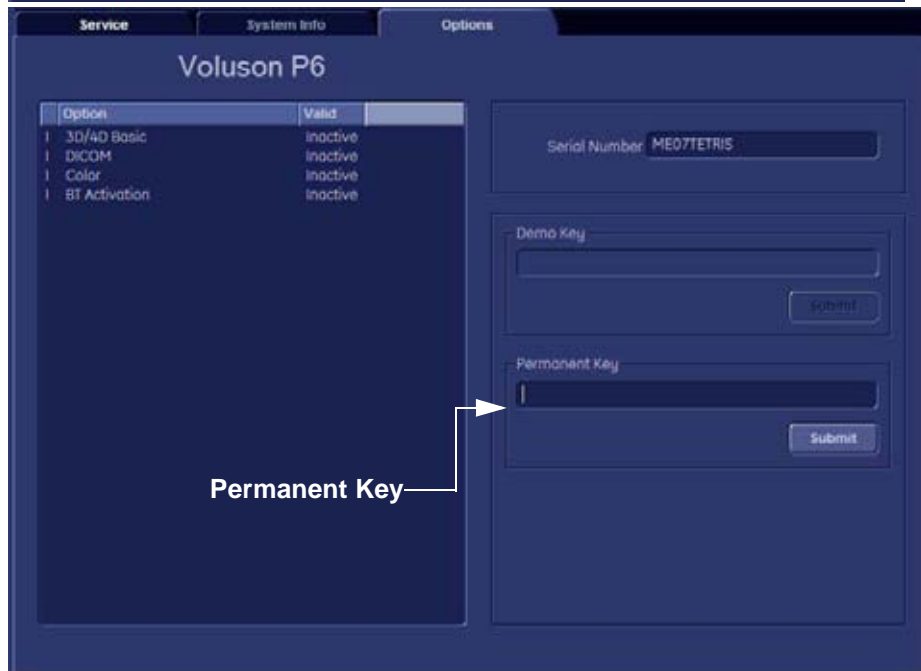

Figure 8-9 System Setup - Administration - OPTIONS page
- check the current Application Software version (Figure 8-9) and the installed Options (Figure 8-9)
- 4.) Verify the correct settings of the **OPTIONS** page; see: Figure 8-9 on page 8-11.